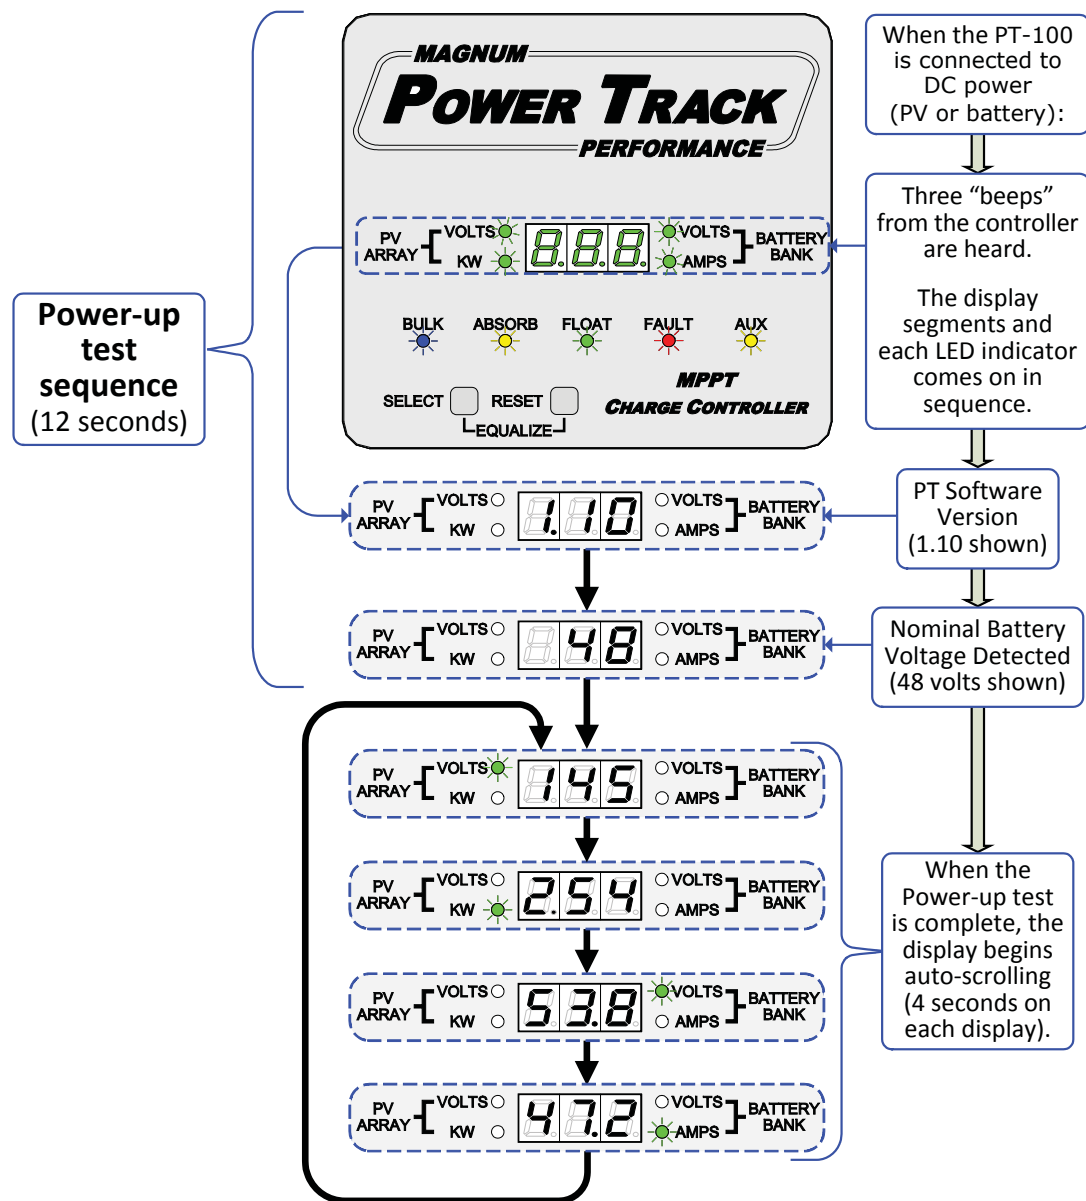
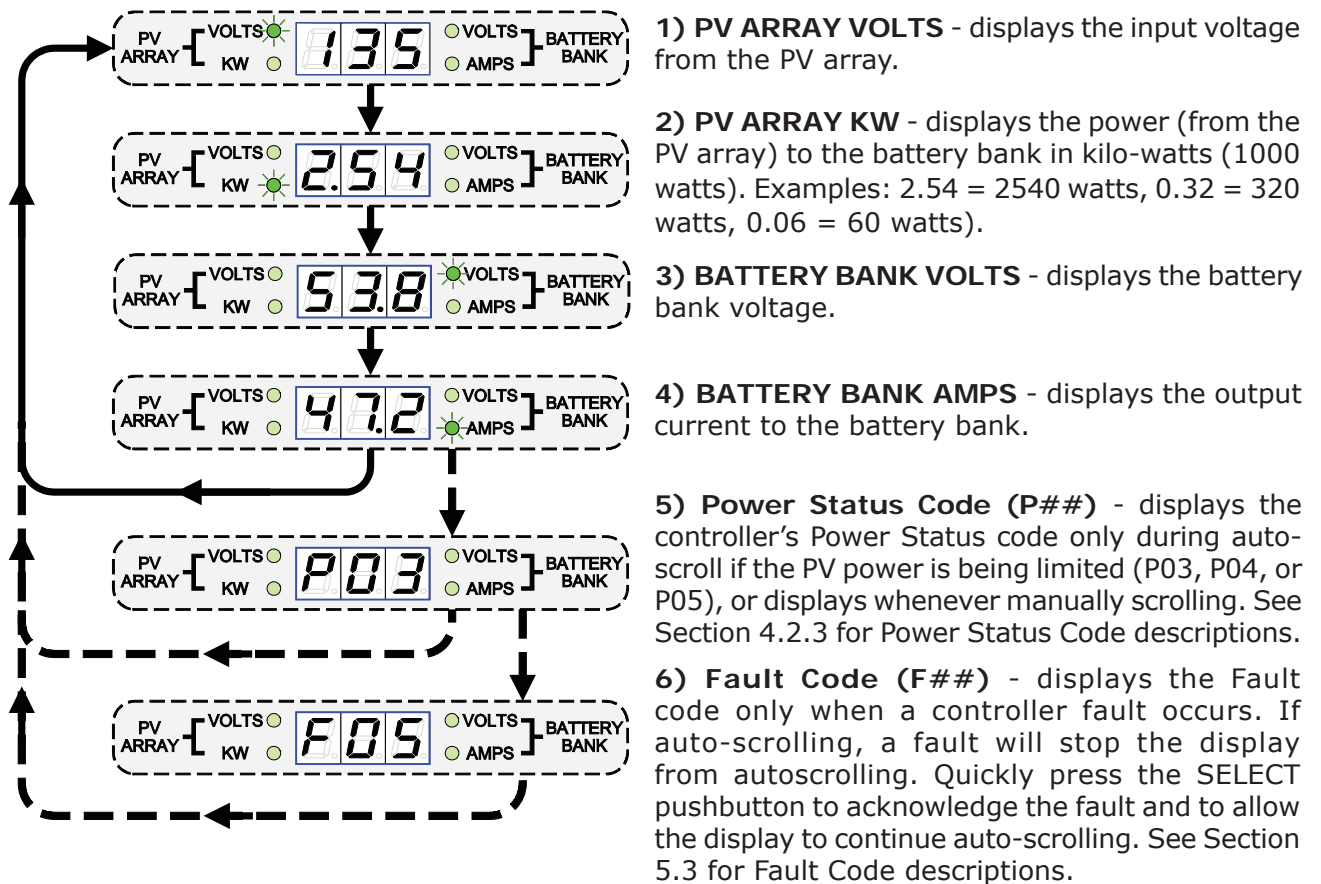

Figure 2-30, Power-up Test Displays
Figure 4-2, Scroll Sequence of Screens
2. If the battery voltage is within the PT-100 input requirements and polarity is correct, apply battery power to the PT controller by closing the battery disconnect breaker, but DO NOT connect the PV array at this time. The PT controller will go thru a power-up test by turning on each segment of the display and all LED indicators, this is followed by the internal alarm beeping three times, displaying the software version and then the detected nominal battery voltage (see Figure 2-30). After the nominal battery voltage has displayed, the power-up test is finished; the display will begin auto-scrolling and the controller begins to operate.
When the controller is connected to DC power (either PV or battery), a diagnostic power-up test is performed (refer to Figure 2-30). This power-up test takes approximately 12 seconds to complete and verifies that all of the front panel LED's and the display come on and stay on until the test is complete. During this power-up test, the internal beeper is heard three times, each segment of the 3-character digital display turns on, and all nine LED indicators come on and stay on in sequence. Right before the power-up test ends, the display shows the controller's internal software version (e.g., 1.10) and then the nominal battery voltage that was detected (i.e., 12, 24 or 48 volts)¹. When the power-up test has finished, the display should begin auto-scrolling thru the operational screens. If the power-up test did not perform correctly or a fault occurs (F## code displays), refer to Section 5.0, "Maintenance and Troubleshooting" for diagnostic help.
When power is applied, the display on the PT controller goes through a power-up test routine (see Figure 2-30). Once the power-up test is complete and no faults occur, the controller begins operating and the display begins automatically scrolling through the operational displays (see Figure 4-2).